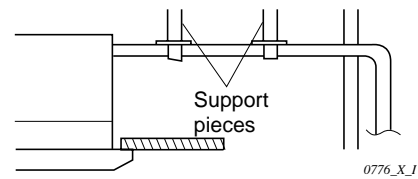

Fig. 3-16
- Do not apply force to the piping on the unit side when connecting the drain pipe. The pipe should not be allowed to hang unsupported from its connection to the unit. Fasten the pipe to a wall, frame, or other support as close to the unit as possible. (Fig. 3-16)